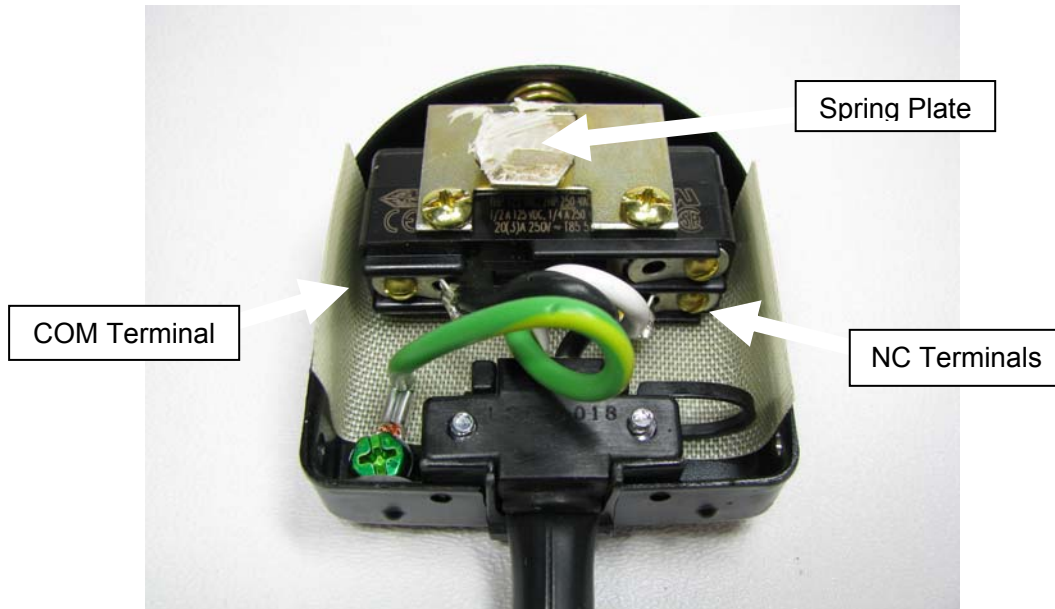

Fig 25
4. Use a flat or Phillips screwdriver to remove the two screws on the sides of the pedal and remove the top. **See Fig 25.**